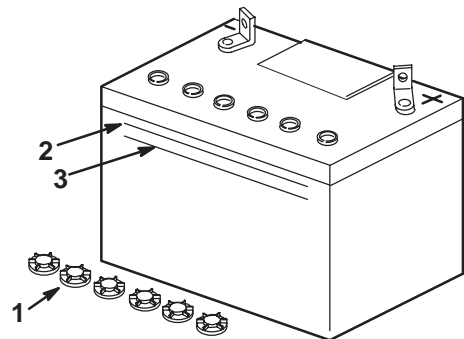

Figure 4
3. Remove the filler caps from the battery (Fig. 4).
4. Slowly pour electrolyte into each battery cell until the level is up to the upper line (Fig. 4) on the battery case.
5. Wait five to ten minutes after filling the battery cells. Add electrolyte, if necessary, until the electrolyte level is up to the upper line (Fig. 4) on the battery case.